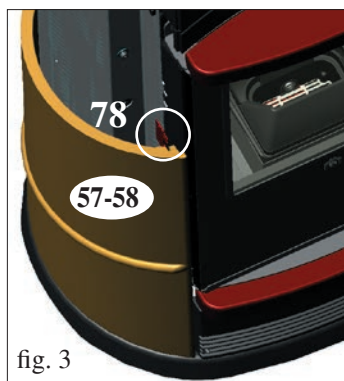

fig. 3
- Use the supplied Allen key to loosen the screws that hold the cast iron lower front grill (43) in place and remove it.
- Position the front panel (22) and use an Allen key to fasten it in place using the 2 supplied M6x25 screws as indicated in detail "X" (fig. 3).